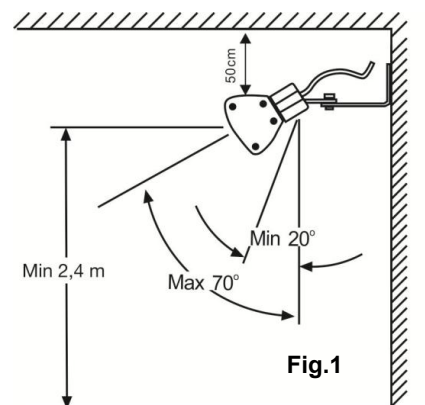

Fig.1
- **DO NOT** position the heater at an angle of more than 70° from the rear wall (See Fig.1).